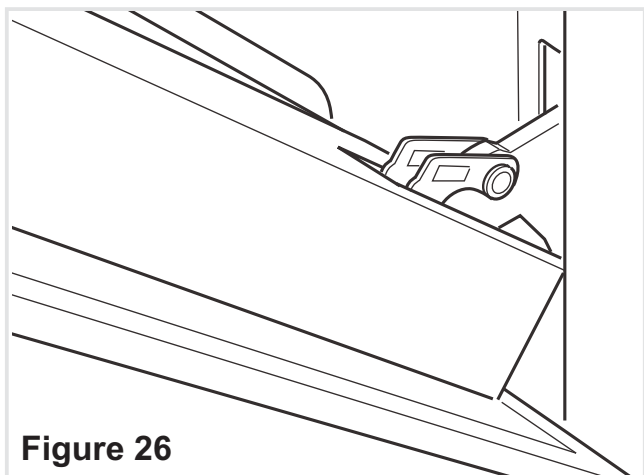

Figure 26
1. Make sure the door is locked open (see fig. 26).